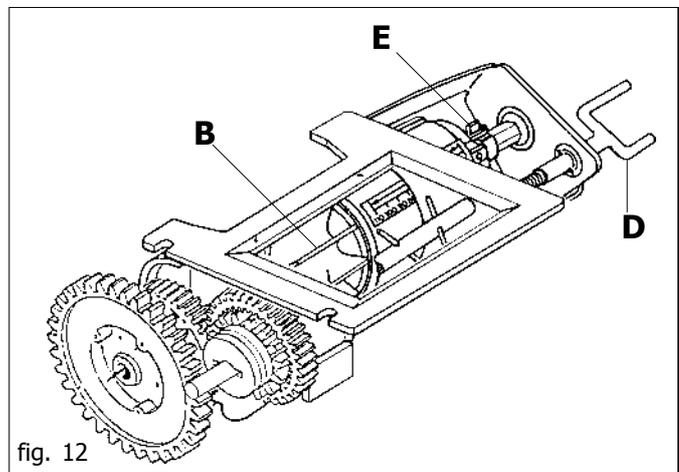
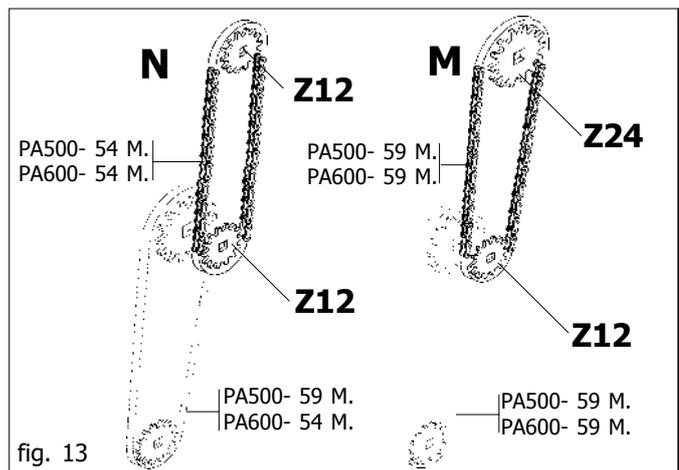

fig. 12
fig. 13
The doser (fig.12) the most important part for seeder operation, is located underneath the seed hopper. Motive power is transmitted to it by the drive wheel through gears (with ratios proportional to the width of the work to be carried out) and chains. The transmission can be fitted with one of two gear ratios (Fig. 13), according to the seed distribution requirements.
Do not close the gate when there are seeds inside the doser: this would result in the dosing parts being broken. The locking spring (E fig. 12) enables the opening range of the gate to be modified which, in turn, modifies the capacity of the dosing roller at the same time.
The doser (fig.12) the most important part for seeder operation, is located underneath the fertilizer hopper. Motive power is transmitted to it by the drive wheel through gears (with ratios proportional to the width of the work to be carried out) and chains. The screw rod (D) enables the degree to which the gate opens to be adjusted depending on the value of the graduated scale, calculated using the table and the distribution test (chapter 3.3.2). The maximum quantity that can be delivered is 420kg/ha. **Do not use the seed-metering device to distribute fertiliser.**